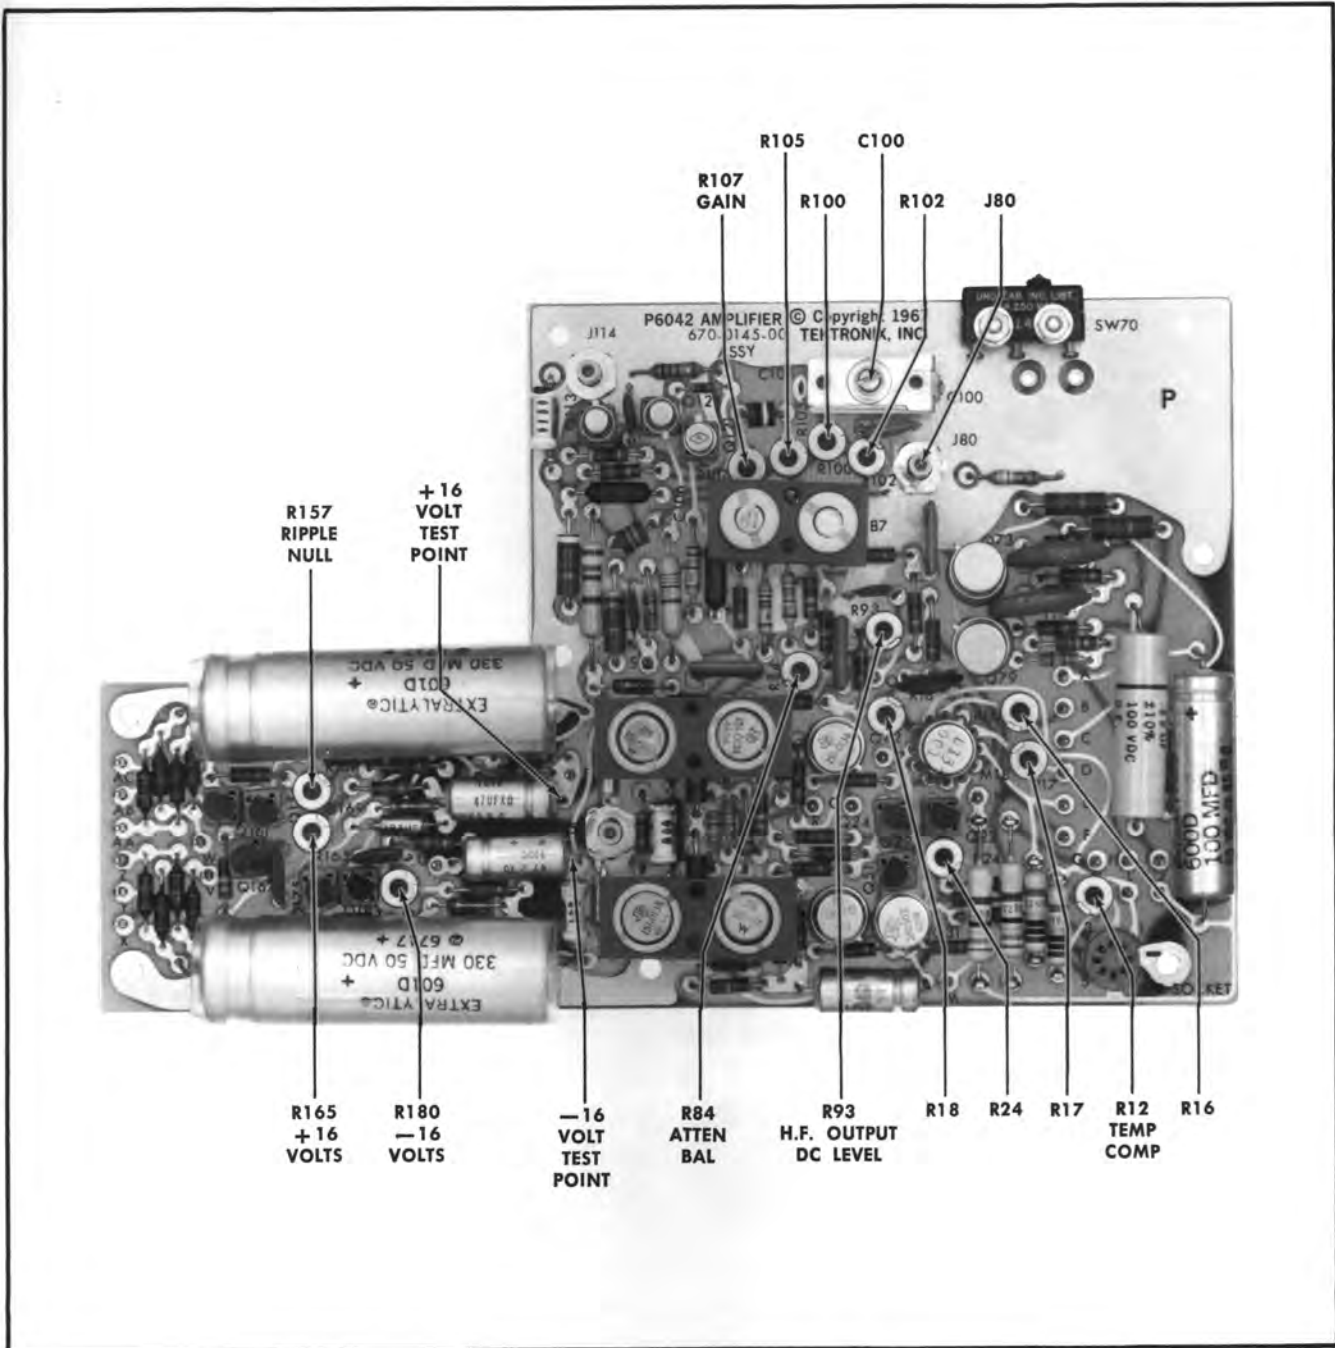
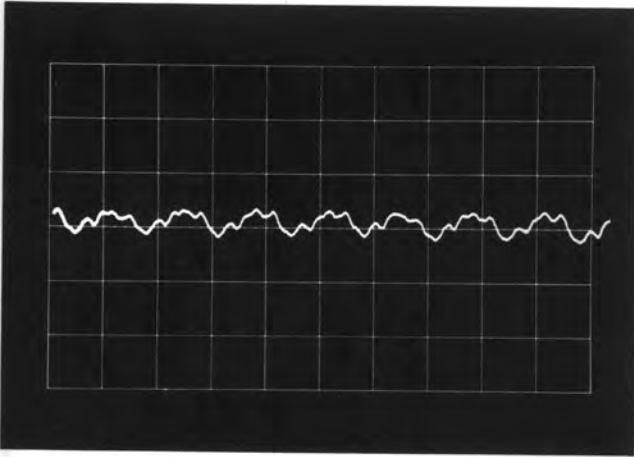

Fig. 6-3. Location of internal adjustments and test points.
Fig. 6-5. Typical ripple on + 16 volt supply at 500 μ volts/cm.
Before starting the procedure, preset R16, R17, and R18 counterclockwise. Do not preset any other internal calibration controls unless they are known to be significantly out of adjustment. In this case, set the remaining controls, with the exception of R12 to midrange. Do not adjust R12, which is a part of the temperature compensation network. This is set at the factory according to the requirements of the Hall device. If the probe transformer is replaced, contact your local field office for adjustment procedure. Fig. 6-3 shows the location of internal adjustments.
a. Using an ohmmeter, measure the resistance to ground at the +16 volt test point (see Fig. 6-3 for location of test point). Check for $\geq 300 \Omega$. Connect positive probe to test point.
b. Check the resistance to ground at the -16 volt test point (see Fig. 6-3) for $\geq 200 \Omega$. Connect negative probe to test point.
c. Adjust R157 for minimum ripple. Fig. 6-5 shows a typical ripple display at 500 μ V/cm.
5. Adjust Attenuator Balance (R84) ❸
a. Remove the connection from J80, on the amplifier circuit board. See Fig. 6-3 for location of J80.